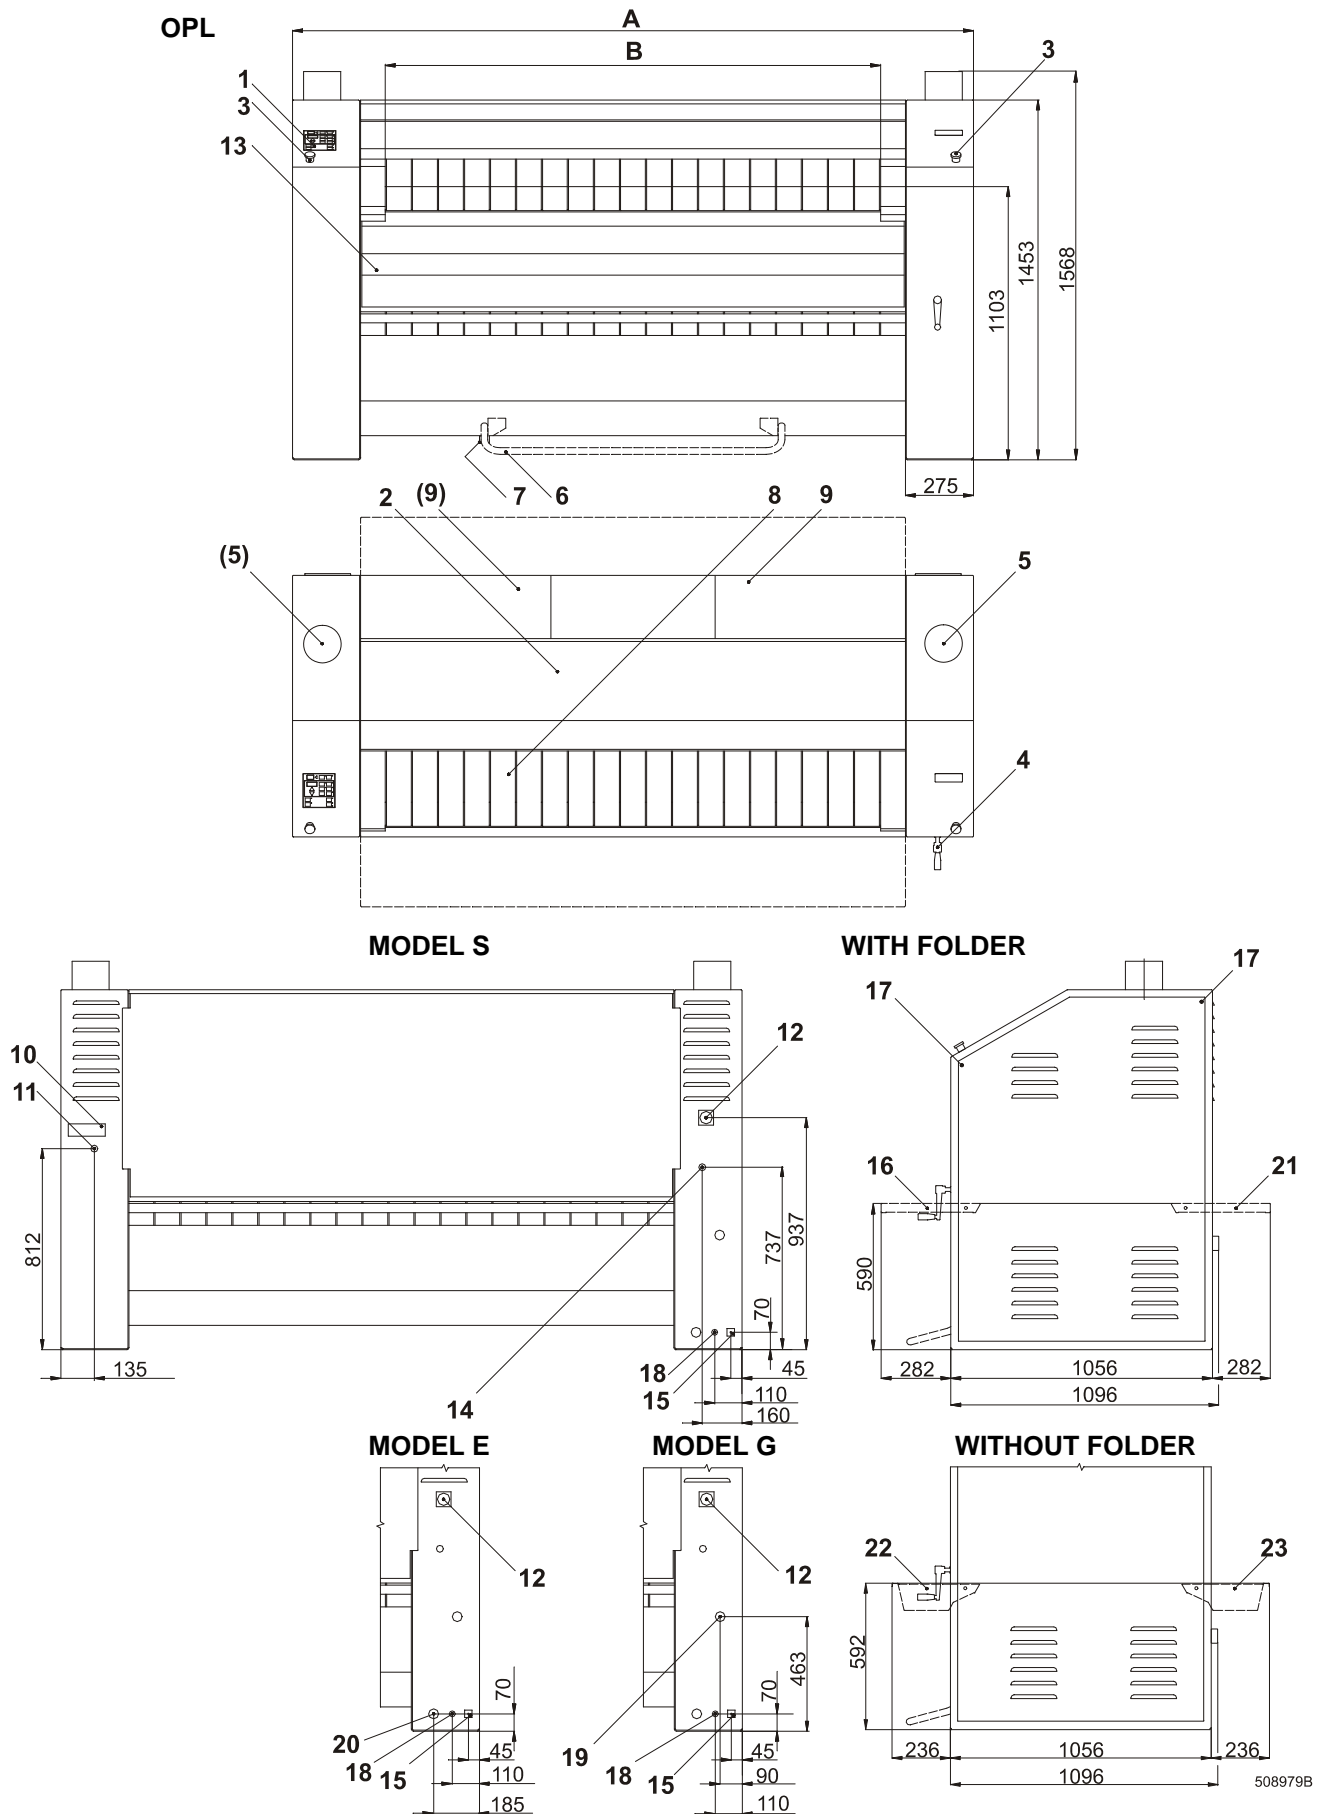

Fig. 3.6.A Layout of components on the ironing machine with front/rear delivery.
LEGEND FIG.3.6.A
Before you start the installation, check the type of your ironer, roller diameter, insertion width and electrical connection according to the production label (pos.13.-fig.3.4.A and 3.5.A, pos.10.-fig.3.6.A), placed on the left stand of the machine.